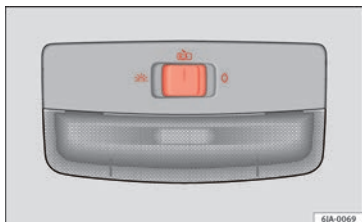

Fig. 51 Interior lighting – version 2.
- Move the light switch to position » Fig. 51.